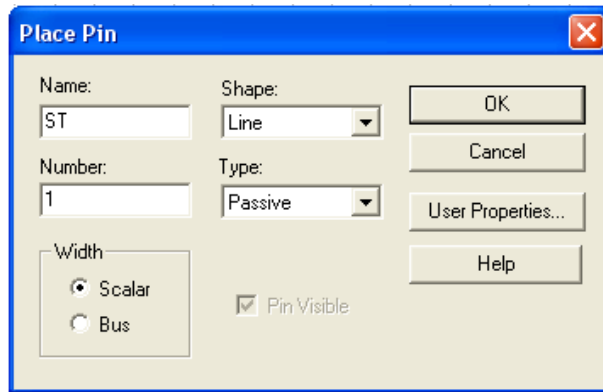

Figure 3.3: Place New Pin
13. Fill out each Pin's name and number according to the datasheet (**See Figure 3.3**)